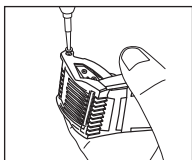

Fig. 9
4. Replace the stubble comb guide pin and screw tightly (Fig.9).